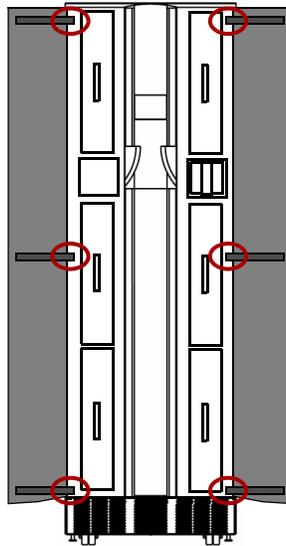

Figure 2-7: Attaching the Doors
2. Using the supplied Phillips screws, attach the **left door hinges** to the frame (Figure 2-7 on page 2-6).